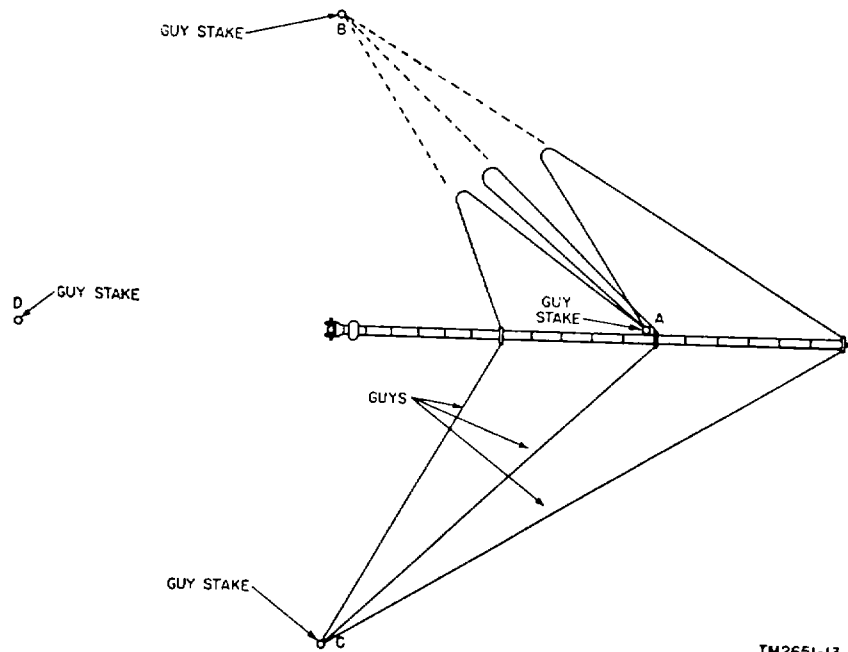

**Figure 13. Assembling mast sections and positioning stakes.**
- (1) Place the mast sections in a line on the ground (fig. 13) with the female end of each section pointing toward the swivel stake.
- (2) Add the base insulator to the swivel stake and then add the mast sections one by one until five sections have been assembled. Allow the mast sections to rest on the ground.
- (3) Place a guy plate on the male end of the fifth section.
- (4) Add five more mast sections to the first five sections and place a second guy plate on the male end of the tenth mast section.
- (5) Add the last 6 sections to the first 10 and place the third guy plate on the last section.
- (6) If the 55-foot antenna is being used, add the whip adapter to the last mast section. Add the standard whip
c. *Stakes.* The four stakes should be located 25 feet from the swivel stake and approximately 90' apart. Note that the letters assigned to the stakes in figures 13 and 14 and in the text below are inserted for purposes of illustration only and are not markings on the equipment.